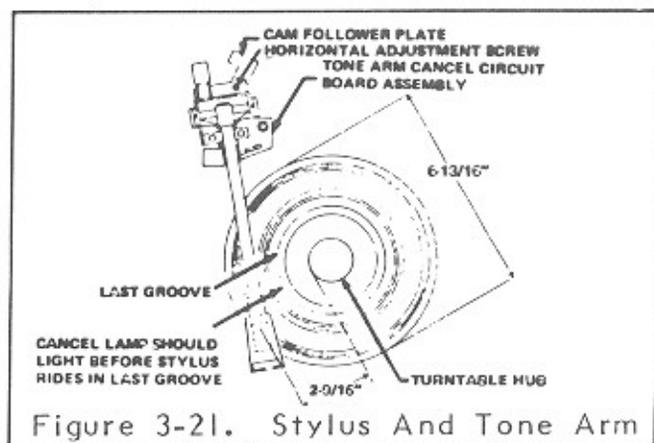

Figure 3-21. Stylus And Tone Arm
1. Place an undersize (6 and 25/32 inch diameter) record on turntable (See Figure 3-21.).